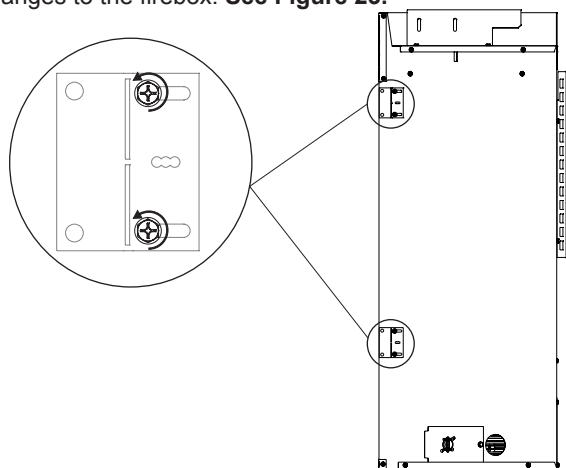

Figure 23
5. Loosen but do not remove the eight screws securing the nailing flanges to the firebox. **See Figure 23.**